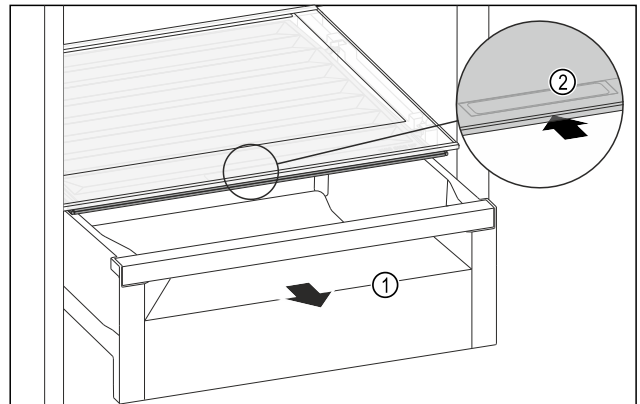

Fig. 123
- Pull out the drawer *Fig. 123 (1)*.
- Grip the handle recess *Fig. 123 (2)* on the lid while pulling the lid backward at the same time.